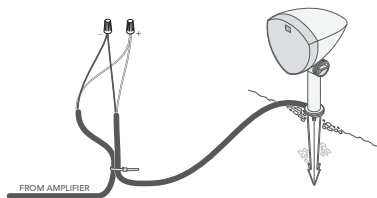

Figure 9
2. Starting at the speaker furthest from the amplifier, strip 3/4" of insulation on the cut end of the burial wires for the appropriate amp channel according to the tables below, then strip insulation from the ends of the corresponding speaker's pigtail (see Figure 9).
3. Connect the burial cable to the speaker pigtail using a wire tie (see Figure 9).